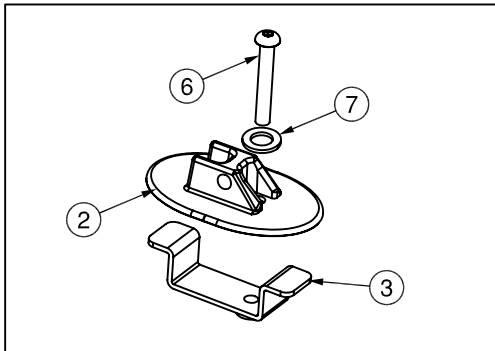
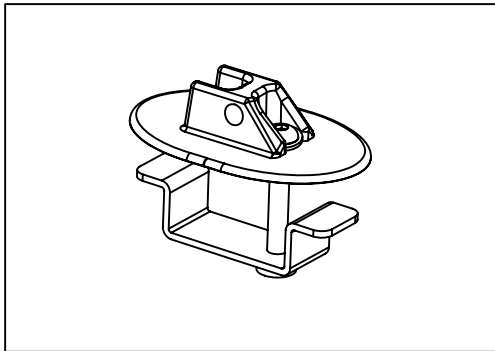

Fig. 2
Fig. 3
3. Assemble the Base to the Mounting Bracket using the M8 x 65mm bolt as shown. (See Fig. 2) Only turn the Mounting Bracket on a few threads. (See Fig. 3)